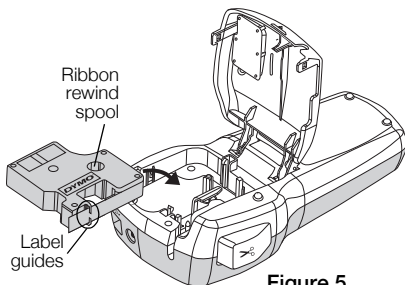

Figure 5
- 2 Make sure the tape and ribbon are taut across the mouth of the cassette and that the tape passes between the label guides. See Figure 5.